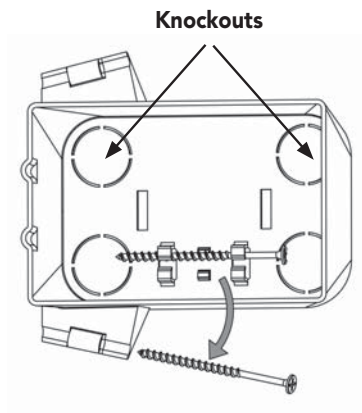

Figure 7
1. Remove the two screws from the interior clips of the junction box, and hand-screw them into the wings of the junction box (**Figure 7**).
2. Remove one of the four knockouts from the junction box (**Figure 7**). The resulting hole will allow routing of the 30-foot control cable into the junction box.